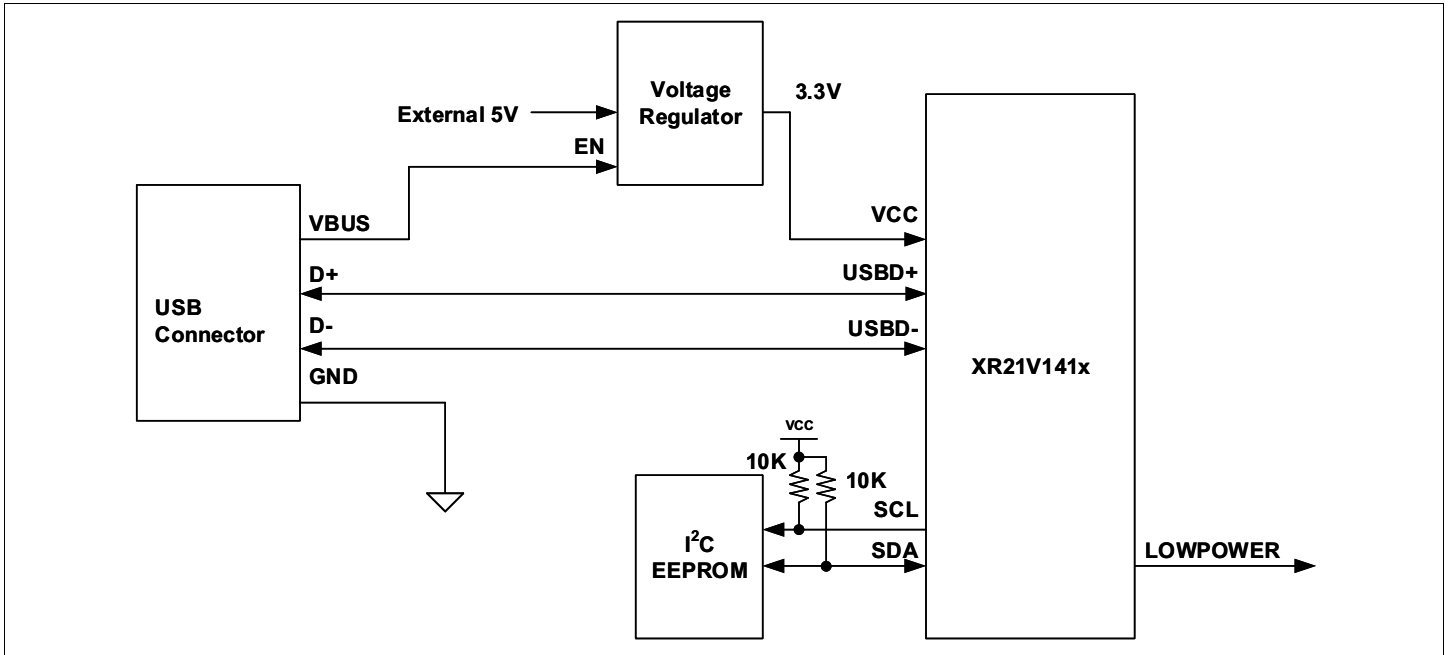
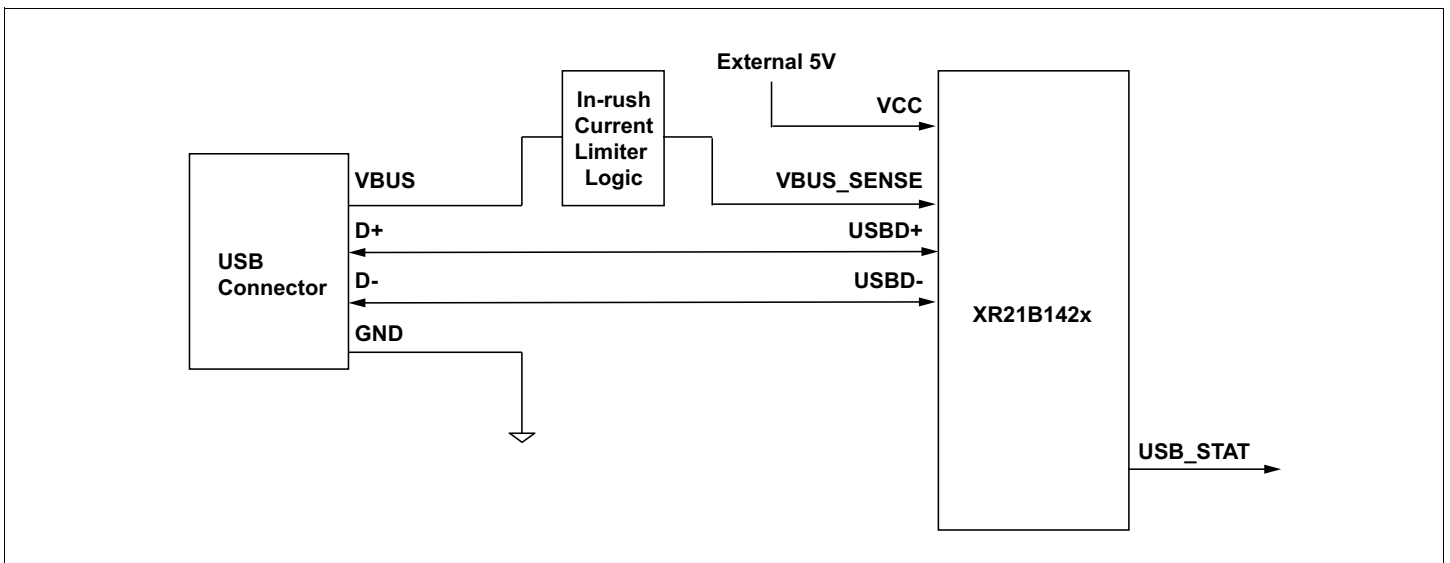
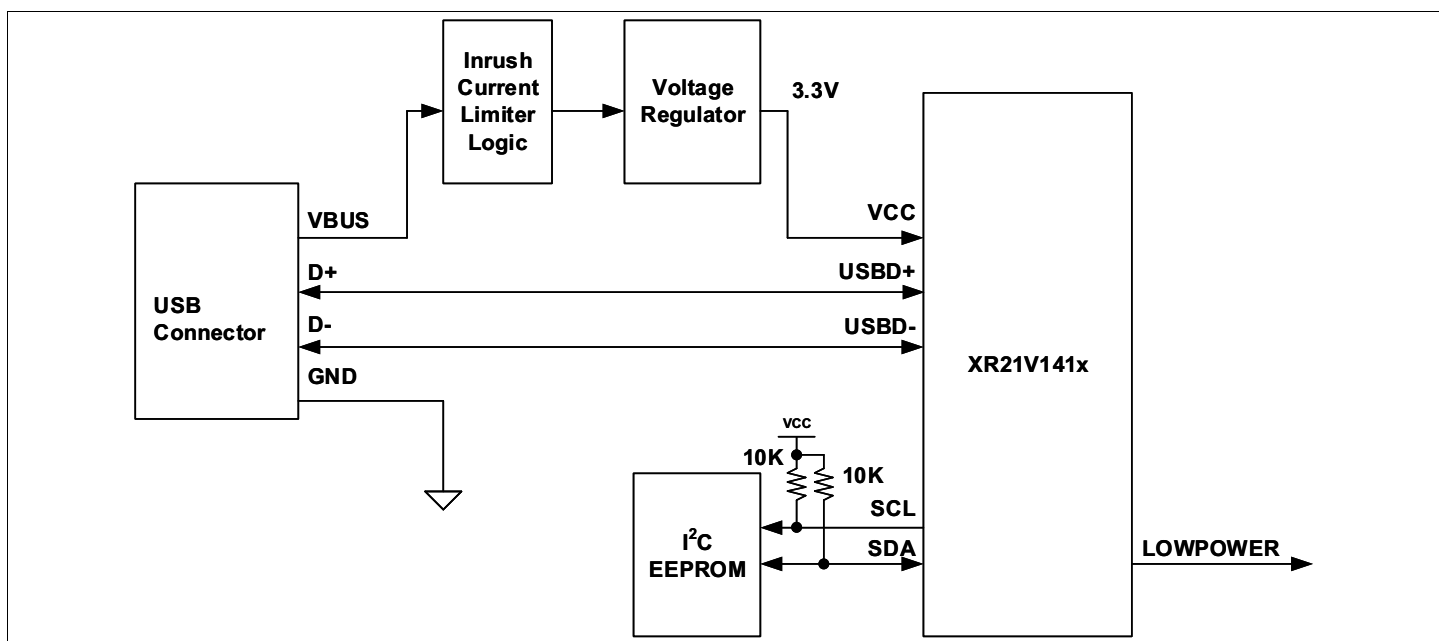
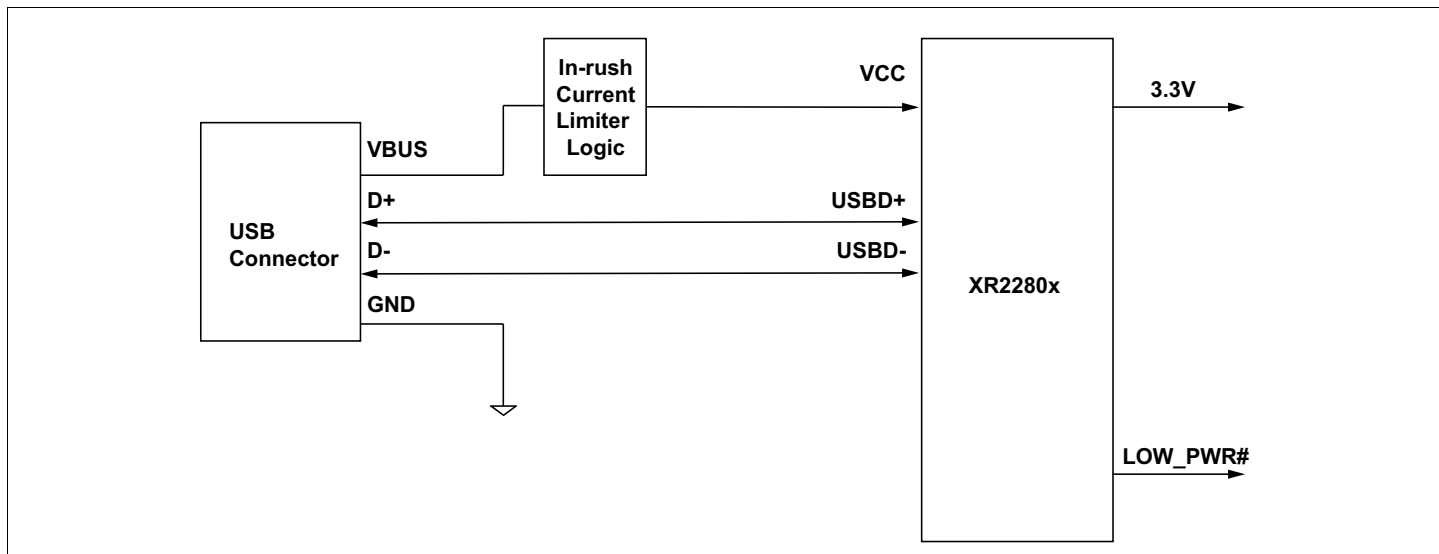

Figure 1: Typical Block Diagram for Self-Powered Applications with 3.3V V_{CC}
Figure 2: Typical Block Diagram for Self-Powered Applications with 5V V_{CC}
Figure 3: Typical XR21V141x Block Diagram for Bus-Powered Applications
Figure 4: Typical XR2280x Block Diagram for Bus-Powered Applications
- In a *self-powered design*, an alternative power source is supplied for example via a power jack or battery to the USB UART and other components on the board. Figure 1 on page 2 shows a self-powered design that uses the XR21V141x with 3.3V V_{CC} . Figure 2 on page 2 shows a self-powered design that uses the XR21B142x with 5V V_{CC} . For more information about design considerations for a self-powered design, see “Design Considerations for Self-Powered Applications” on page 3.
- In a *bus-powered design*, the 5V from the VBUS of the USB connector (from the USB host) provides the power source for the USB UART and can also provide other components on the board. Figure 3 on page 3 shows a bus powered design for XR21V141x and Figure 4 on page 4 shows a bus powered design for XR2280x. Other families that use 5V V_{CC} should not require the 5V to the 3.3V LDO. For more information about design considerations for a bus-powered design, see “Design Considerations for Bus-Powered Applications.”
The in-rush current is a measure of how much power the product draws when it is initially connected to a USB host/hub. According to the USB 2.0 specifications, the in-rush current must be limited to 100mA/μs to prevent the surge of current into the board from pulling the VBUS from the host below its minimum operating level. To minimize the amount of the in-rush current, MaxLinear recommends that you use an in-rush current limiting circuit (as shown in Figure 2 on page 2 and Figure 3 on page 3) and a bypass capacitance on the VBUS signal limited to 10μF. An example of an in-rush current limiter can be found in any of the MaxLinear USB UART evaluation board schematics.
If an in-rush current limiting circuit is not used (as shown in Figure 1 on page 2), note that in some cases a voltage spike from the VBUS voltage applied to the USB UART PCB can occur. This voltage spike can damage the USB UART due to a known effect when a step voltage is applied through a large inductance to a shunt capacitance with low equivalent series resistance (ESR). The step voltage is created when you connect a USB cable to the VBUS 5V source. The large inductance is induced by the USB cable and typical ceramic capacitors have a very low ESR. For embedded designs that connect an MCU on PCB traces, this is not an issue. When the system connects through a USB cable and no in-rush circuit, MaxLinear recommends that you use a tantalum capacitor which can provide enough ESR to prevent a damaging voltage spike.
In embedded applications where the host and device are powered by the same power source, the `VBUS_SENSE` pin can be pulled up to a logic 1 state. In the XR21V141x family the external power source can be disabled by the `VBUS` as shown in Figure 1 on page 2.